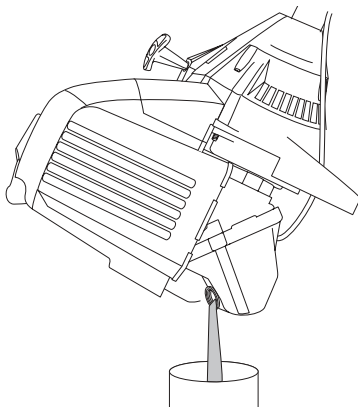

Figure 42
3. Pour the oil out of the oil fill hole and into a container by tipping the unit to a vertical position. See Figure 42. Allow ample time for complete drainage.